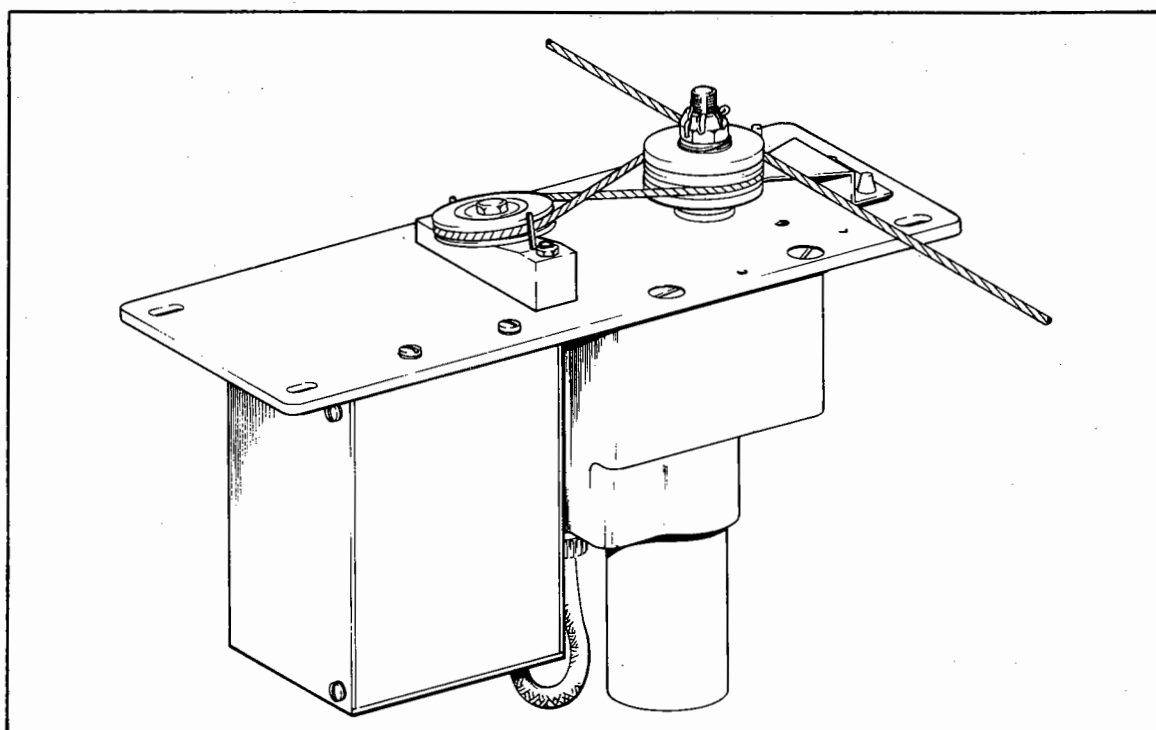

Figure 21-3. PA-23-250 Trim Servo Cable Routing
#### 21-3 INSTALLATION OF TRIM SERVO. PA-23-250 (Six Place). (Refer to Figure 21-3.)
**21-5. INSTALLATION OF TRIM AMPLIFIER ON 1C345-5 AND/OR 1C469-5 TRIM SERVO. PA-23-250 (Six Place). (Refer to Figure 21-3.)**